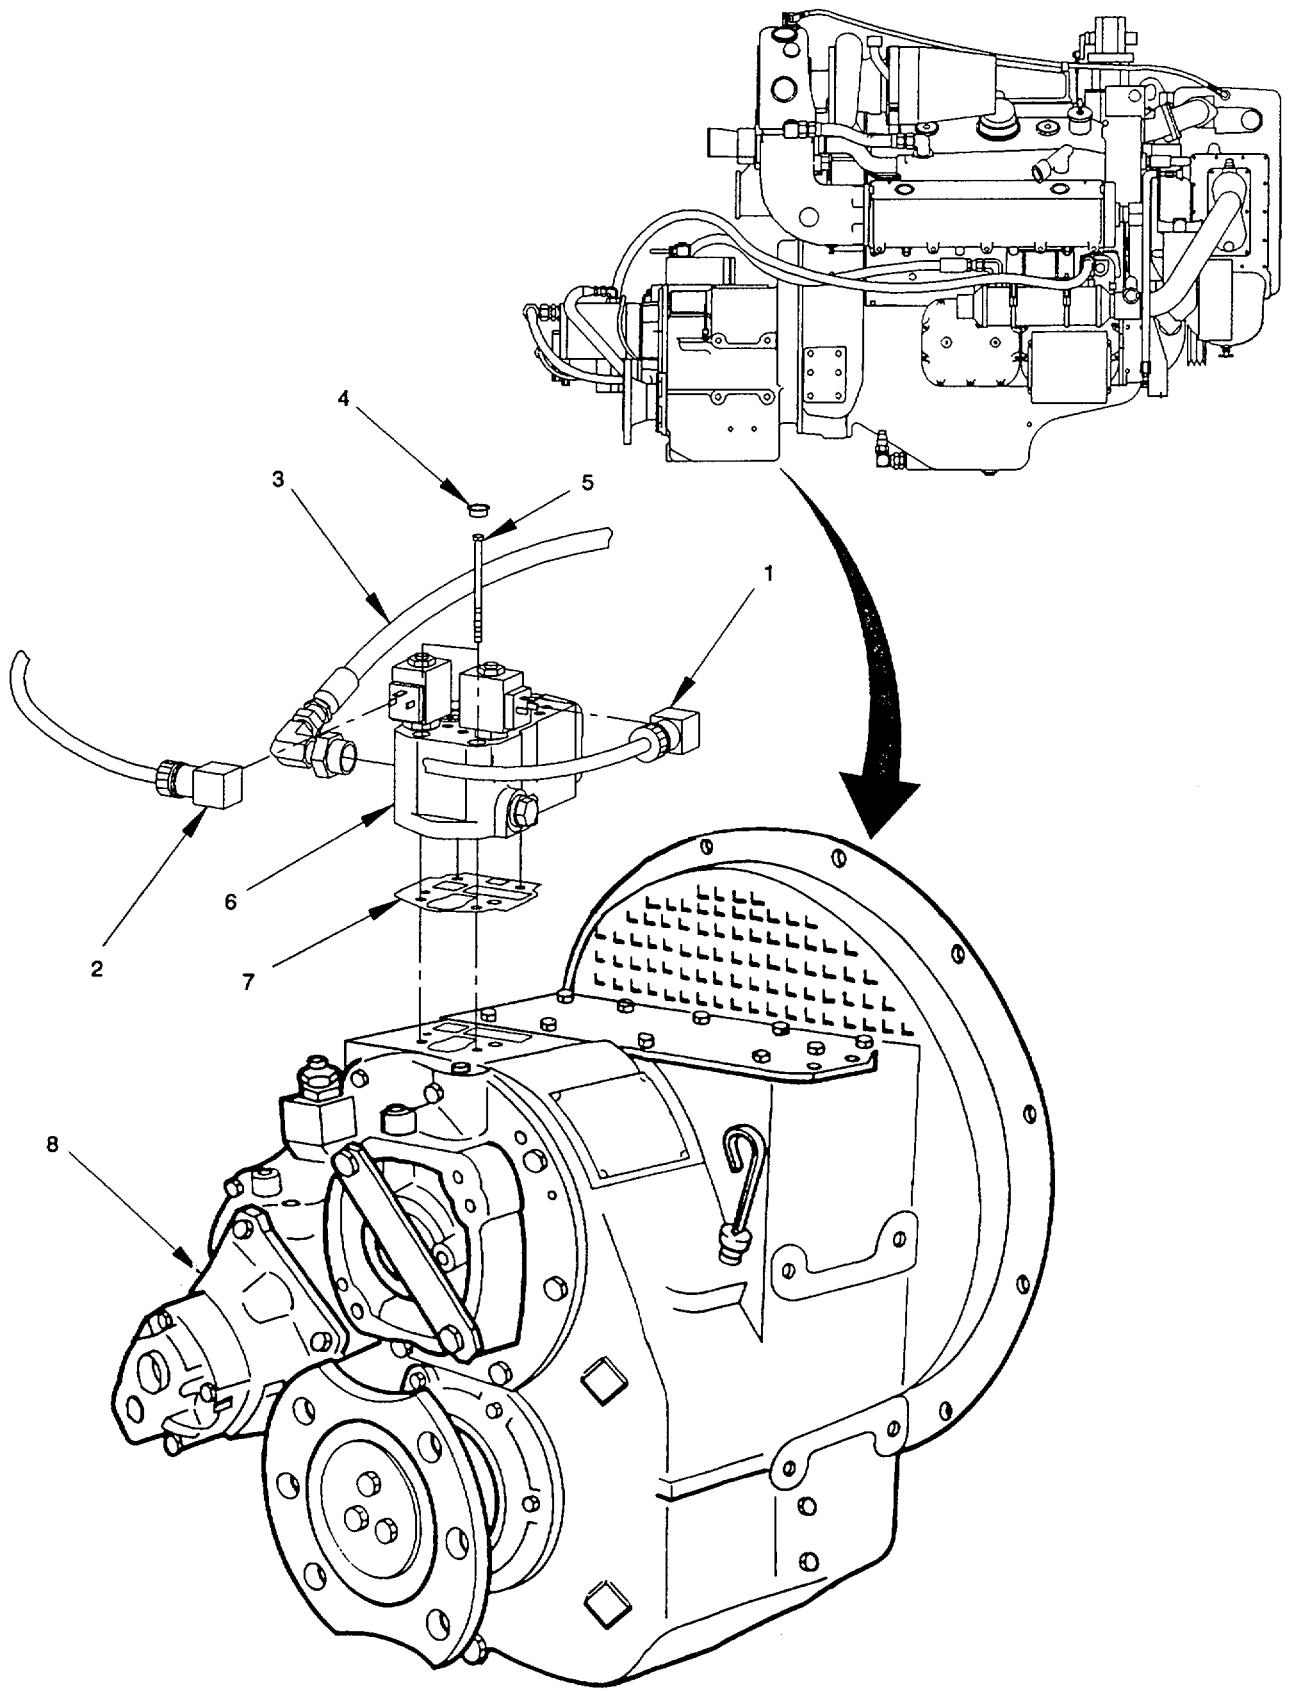

Figure 4-1. Electric Control Valve, Marine Transmission.
a. Remove. (figure 4-1)
- (1) Disconnect electrical plug-in connections (1) and (2) from control valve.
- (2) Disconnect hydraulic line (3) from control valve, draining any hydraulic fluid into an approved container.
- (3) Remove four protective caps (4) from mounting cap screws and remove four mounting cap screws (5).
- (4) Remove control valve (6) and collect gasket (7) from marine transmission housing (8).
b. Install. (figure 4-1)**WARNING**